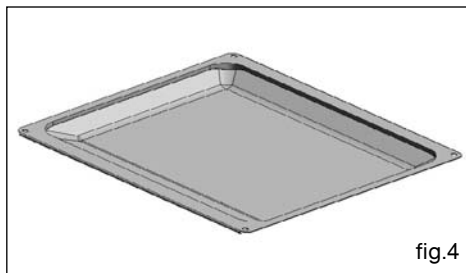

fig.4
• **Plat multi usages 20 mm (fig.4)**